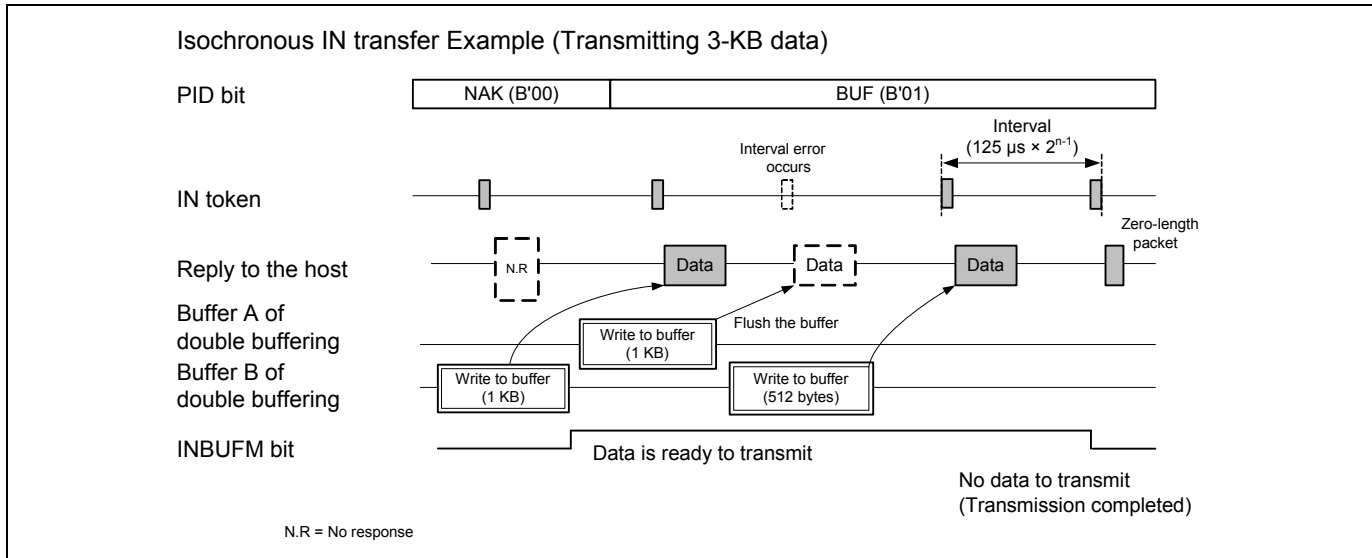

Figure 7 Isochronous IN Transfer Example
Table 1 lists the setting example of isochronous IN transfer using pipe 1. Figure 7 shows the operation example using the setting listed in Table 1. Double buffering is enabled in this example. As this example assumes to use the DMA transfer to write data to buffer, BRDY and BEMP interrupts are not used. For details, refer to (1) to (8) described in following pages.